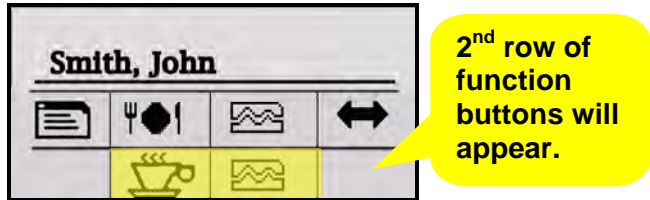

Figure 33: Select Coffee or Break Function
Step 2. The user can swipe his/her badge magnetic card or use the keypad to enter the ID number. Press **enter**  to accept the ID number when using the keypad. If the ID is valid for that terminal, the screen will change to display name [if a name exists] and display the 2nd row with Coffee and Break function buttons under the first row of buttons (see **Figure 33**).